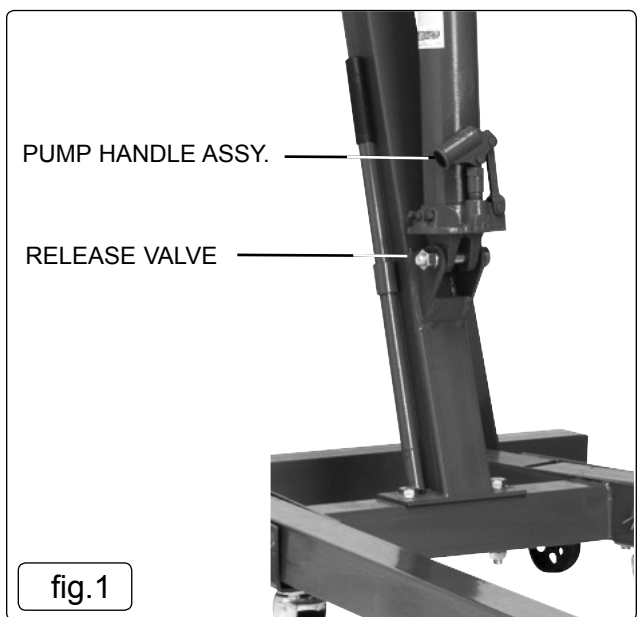

fig.1
- 3.1.5. For control system, see fig.1 for release valve, pump assembly and handle. Operation is explained in Section 5.